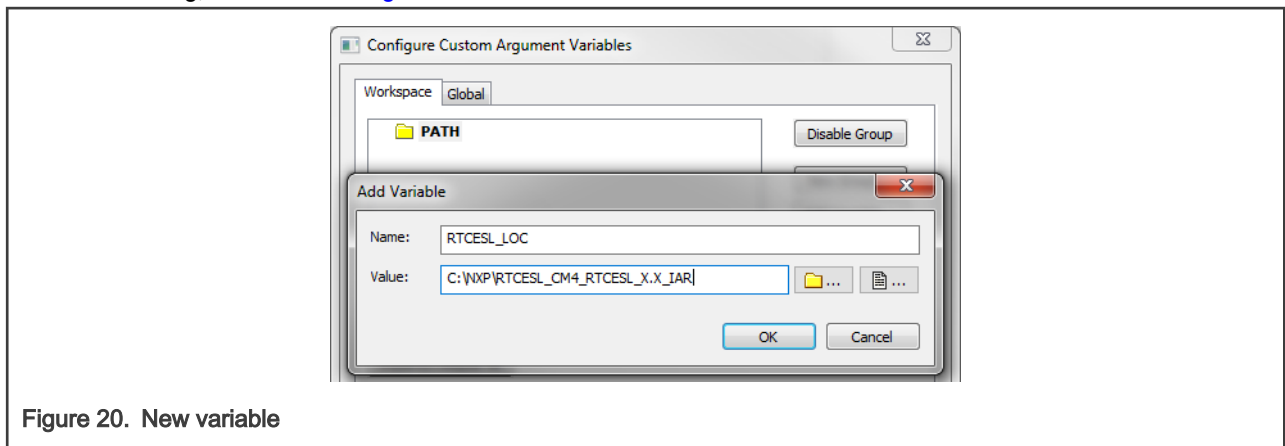

Figure 20. New variable
6. In the main dialog, click OK. See Figure 20.